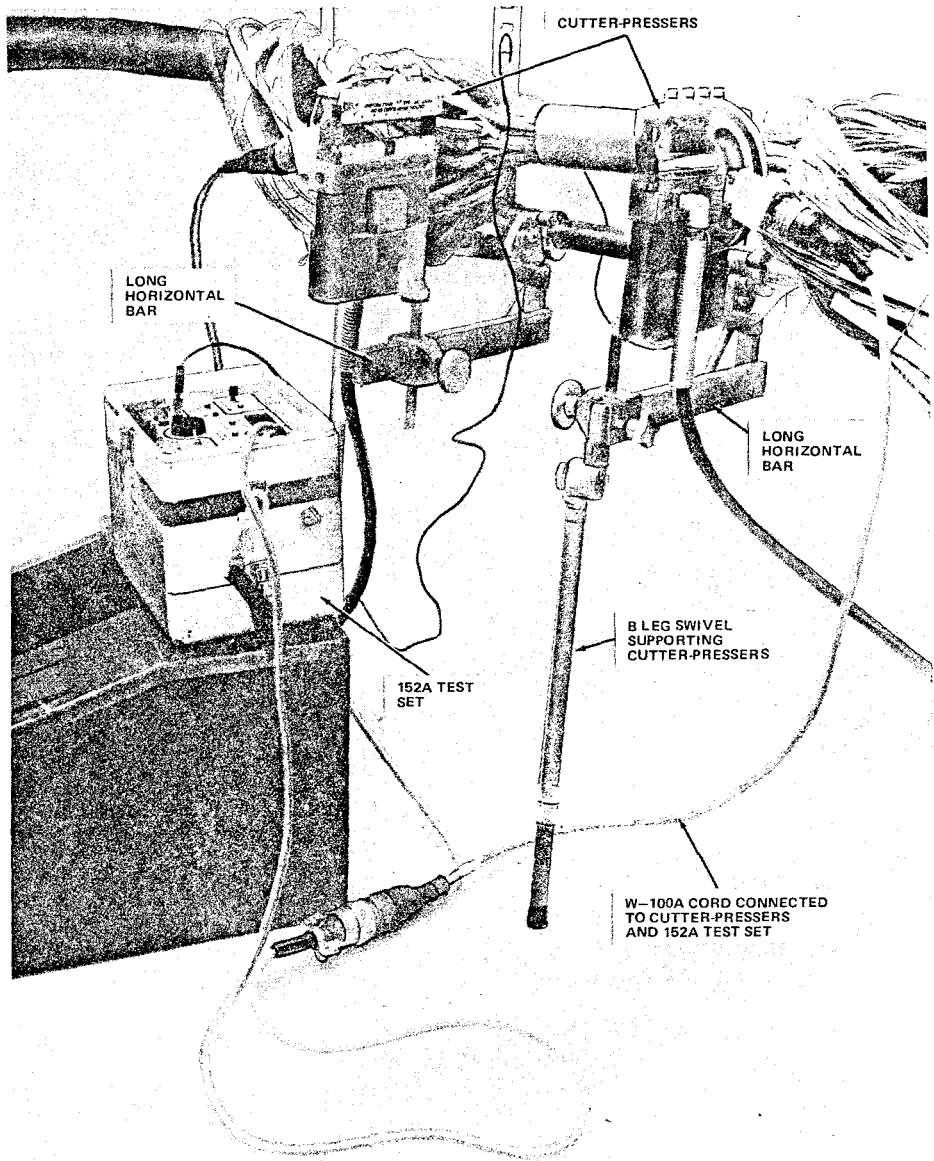

Fig. 43—2-Person Setup for Splicing and Testing
5.13 Test set can be used with two cutter-pressers using W-100A cord (Y) as shown in Fig. 43. However, only one splice can be tested at a time. Both T-bars cannot be in down position when testing.
2. Install splicing tool to be used as outlined in Part 4. (See Fig. 43, page 107, for setting up tools for two-person splicing operation.) Position cutter-presser on right-hand side of cable.